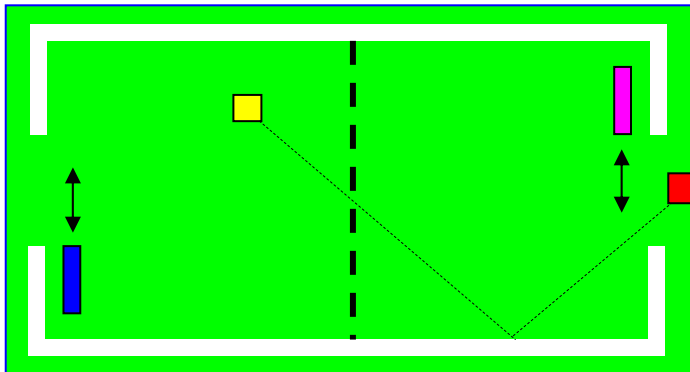

Figure 1: Static SVGP video-frame with dynamic elements– “ball” and “players”
1. Static video-frame – game field in green color with white borders as shown in Figure 1: